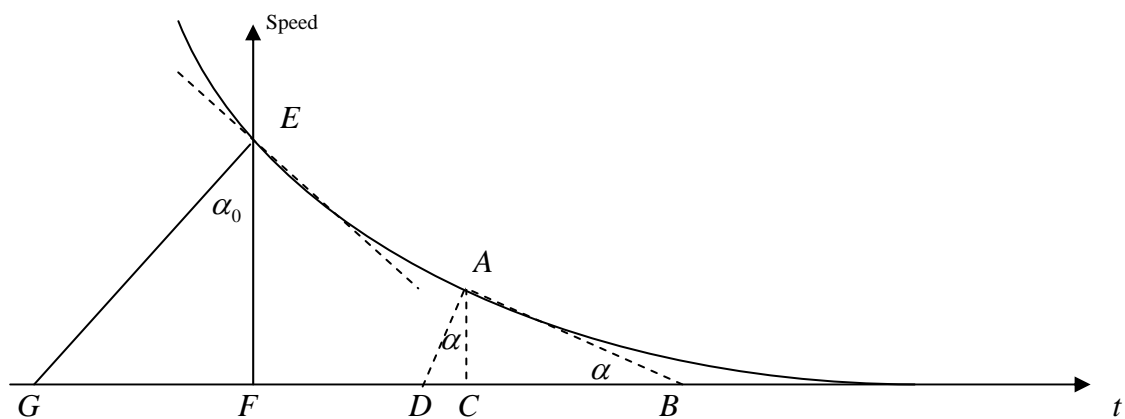

Figure 1. Running-down curve of a DC machine
If a motor is brought to speed and switched off, it will slow down as represented by the running down curve shown in figure 1. The retarding torque (T) is due to the friction and iron losses. The angular retardation $\frac{d^2e}{dt^2}$ at any instant is directly proportional to the retarding torque at that instant and varies inversely with moment of inertia (J) of the rotating parts
At a speed n (represented by a point A of figure 1), the power wasted is P and the retarding torque $T = \frac{P}{2\pi n}$. Therefore, the power wasted takes the form:
The angular retardation $\frac{d^2e}{dt^2}$ is directly proportional to the slope of the retardation curve. Hence, at the speed represented by a point A of figure 1, the retarding torque is proportional to the slope at A (slope = $\tan \alpha$):